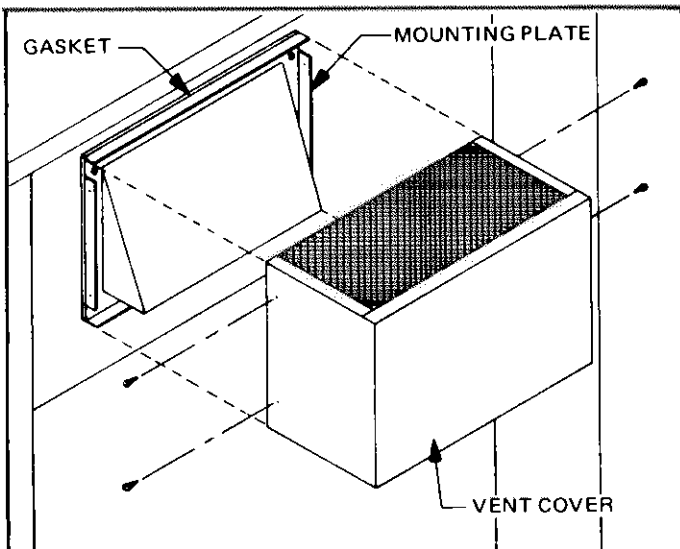

FIGURE 11
Remove (4) screws securing cover plate over flue opening on unit. Discard cover plate. Place gasket and flue mounting plate over opening. Reinstall screws and tighten to secure plate in place. Secure vent cover to mounting plate with two screws on each side. See Figure 11.